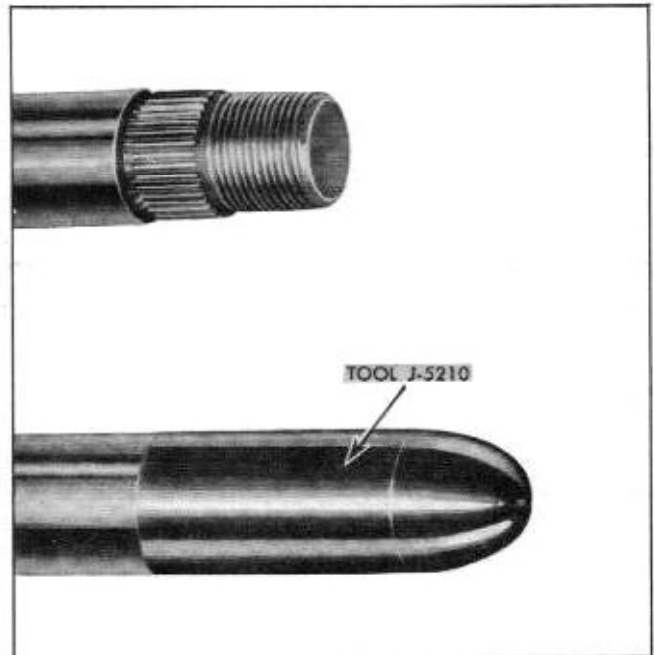

Fig. 9-60 Tool J-5210 Installed on Steering Shaft
1. Install tool J-5210 over serrations at steering wheel end of shaft (Fig. 9-60).